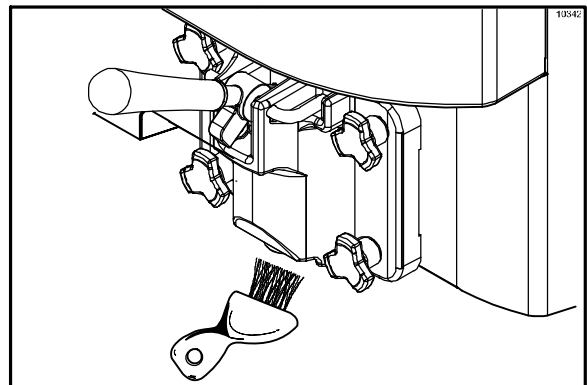

Figure 56
**Note:** To assure sanitary conditions are maintained, brush each item for a total of 60 seconds, repeatedly dipping the brush in cleaning solution. (See Figure 56.)